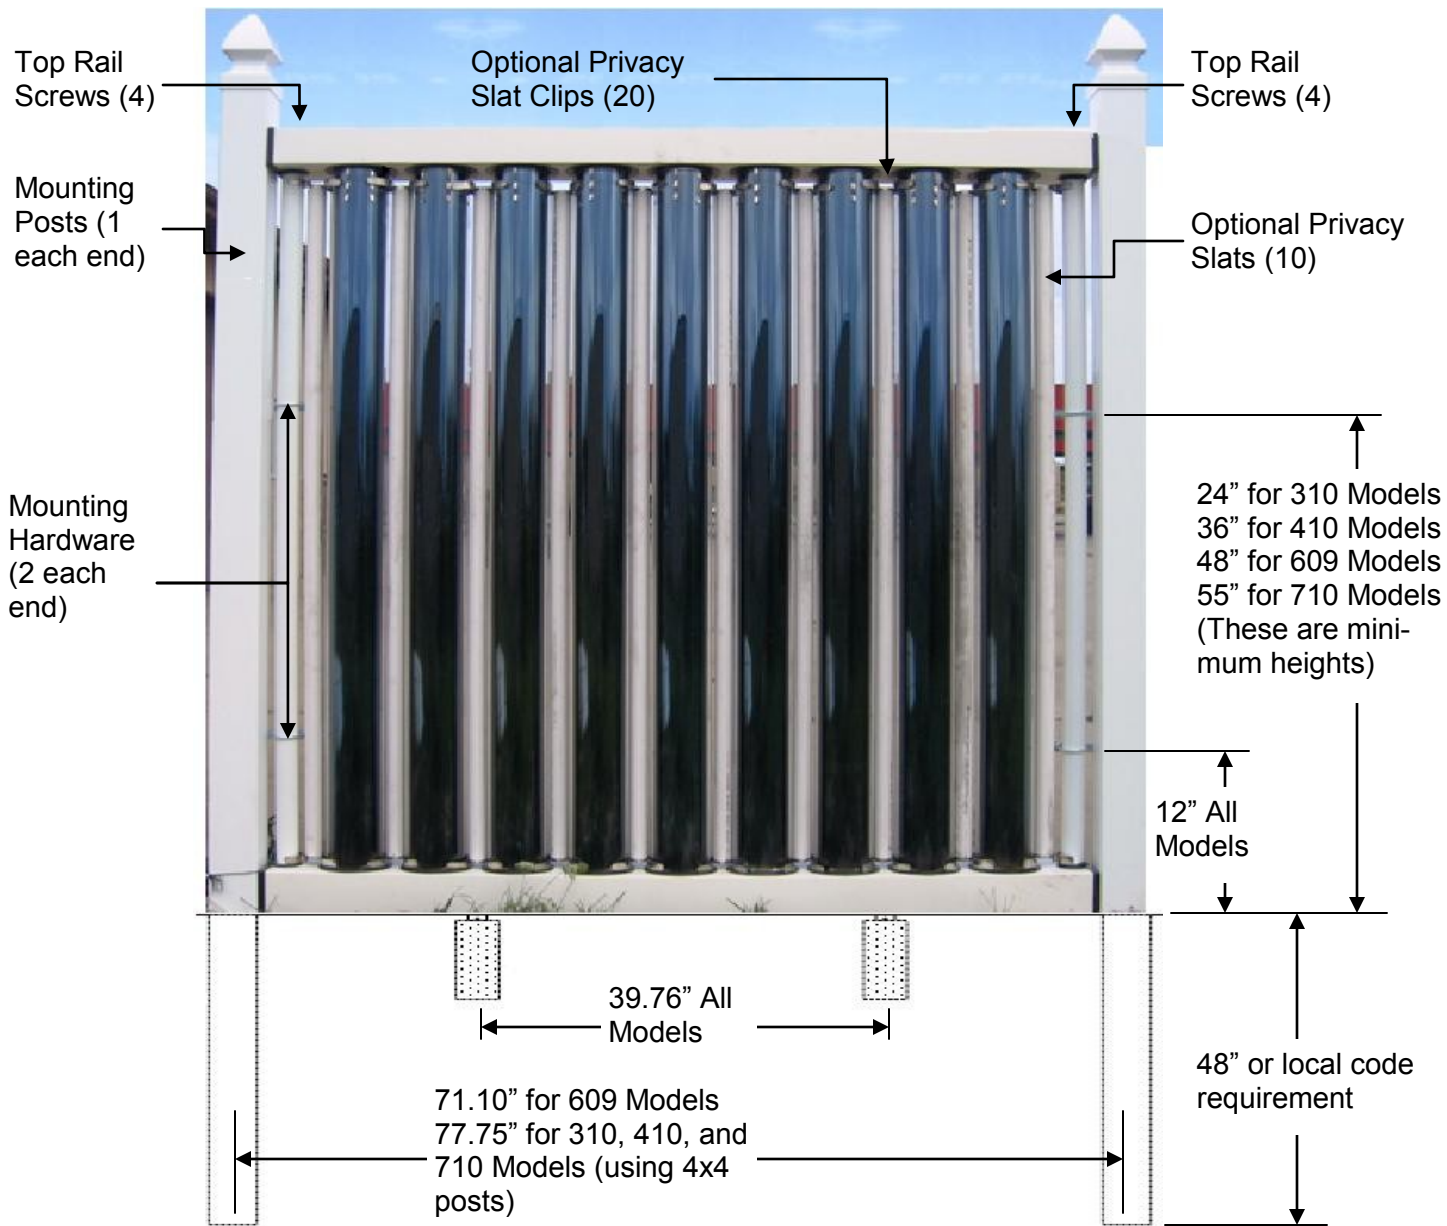
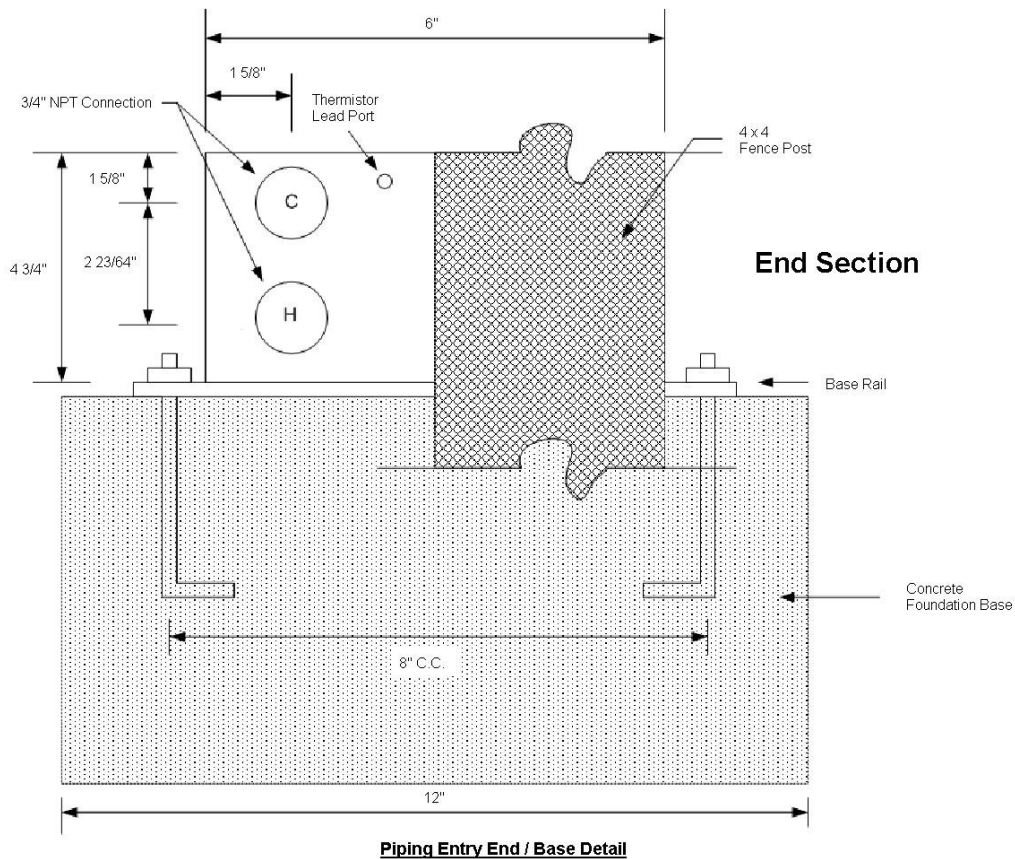

Figure 3: High Efficiency Solar Fence details for mounting. Shown with optional Privacy Slats and Decorative 4x4 post covers.
Figure 4: End View Detail of Collector Base showing optional Mounting
- 1.2.1 After area to be used has been cleared by local utilities to dig, using dimensions as shown in Figure 3 on page 7, and Figure 4 on page 8, layout fence post positions and optional collector base bore holes.
1.2.3 Dig optional foundation pad holes and frame 12" square or use 12" Diameter "Sonotube" or equivalent product with 1/2" anchor bolts as shown in Figure 3 above, and Figure 4 on page 8. A jig should be used to properly space the lag bolts. The jig can be seen below in Figure A on page 7. You can pour pre-cast foundations or use quickset on the job site. Verify foundation frame or tube are level and square. If not using foundation, pre-fab concrete pads should be used.
- 1.3.2. Once units are secured to foundation pads, insert 4x4 posts as described in Figure 3 on page 7. Wrap posts in construction felt or plastic to help extend the life of the post. Over time, if not wrapped, concrete will eat away at wooden posts. Pour concrete into post holes and allow to cure. Verify that posts are plum and square to the foundation pads.
- 5.1.3. Remove top rail from Collector Base by removing four (4) screws from each end as described in Figure 3 on page 6.